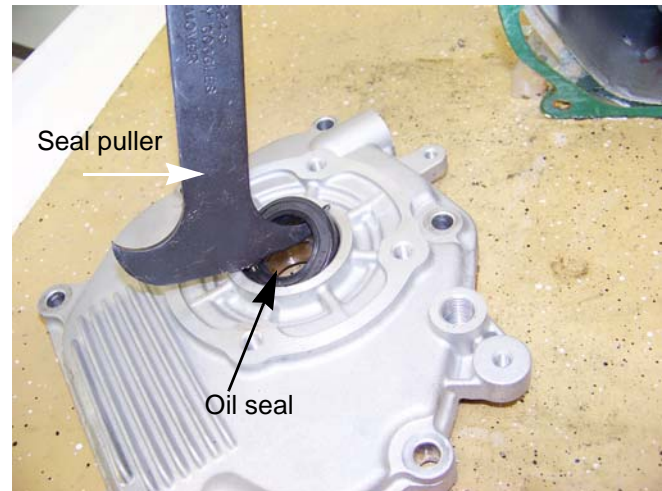

Figure 10.15
1. Remove the crank case cover and cylinder block oil seals using a seal puller. See Figure 10.15.